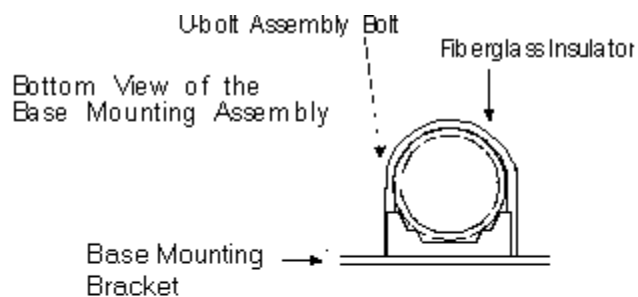

Figure 5
- [] 17. Secure the mounting bracket to the fiberglass insulator as shown in Figure 5. Make sure the antenna mast does not contact the U-bolts. The next four steps may be skipped if the antenna uses the MFJ-1904 Antenna Base.
- [] 1. The U-bolts should be attached to the base through the holes as indicated in Figure 5.